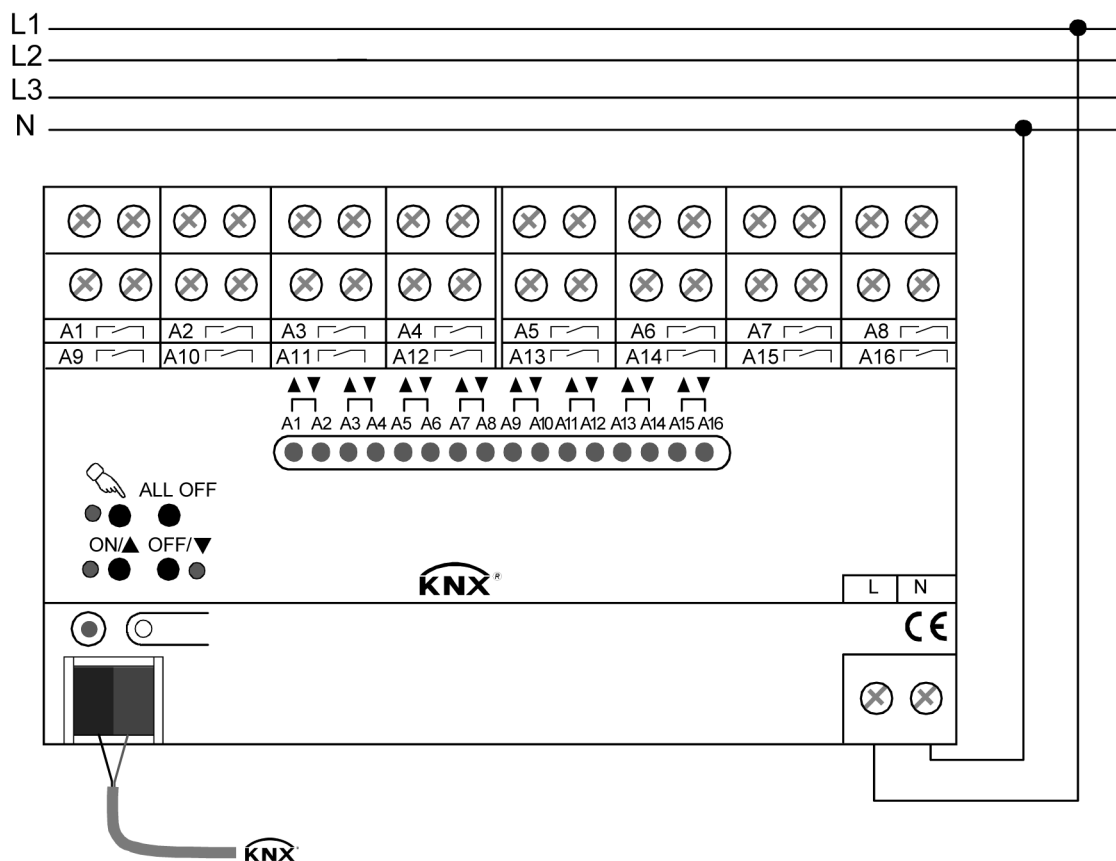

Figure 4: Electrical connection of mains voltage
- Connect the bus (standard bus terminal) and the mains voltage supply as shown in (Figure 4) (connection example).